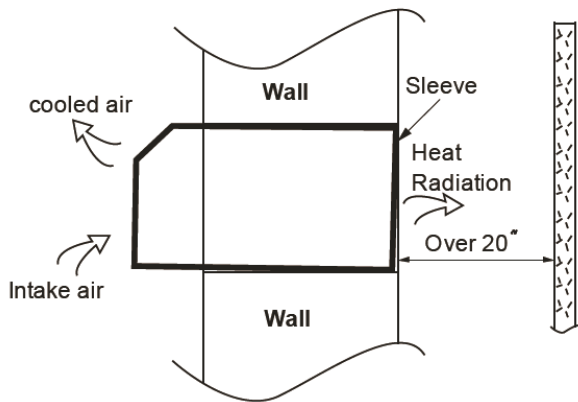

Fig. 2
- When installing the sleeve, make certain there is nothing within 20 inches of the back that would interfere with heat radiation and exhaust airflow. (See Fig. 2)